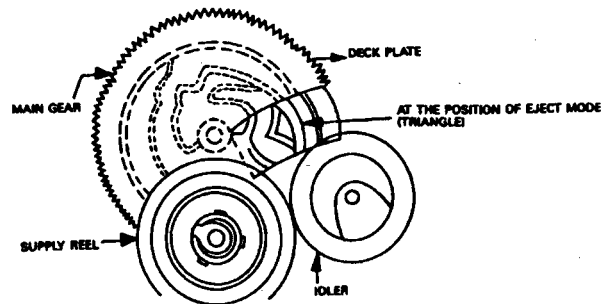

Fig.22
- 2.. Make certain the main gear of the loading motor is at the eject position as Fig.22.